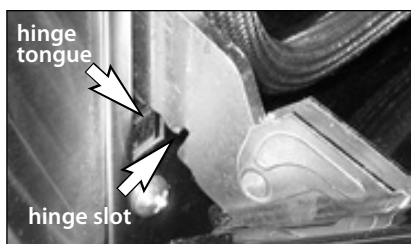

Fig. 24
2. Simply place the hinge tongue into the hinge slots (See Fig. 24).